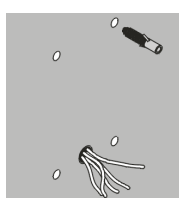

Fig. 4
- 3 - Locate the plugs ( Fig. 4 );